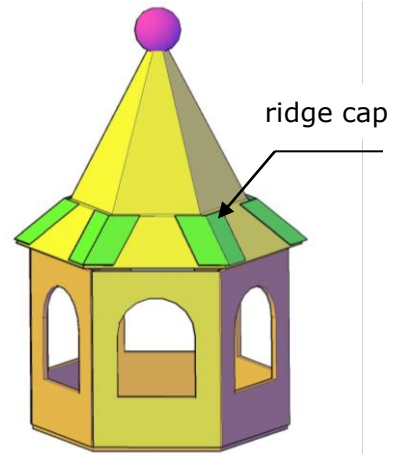
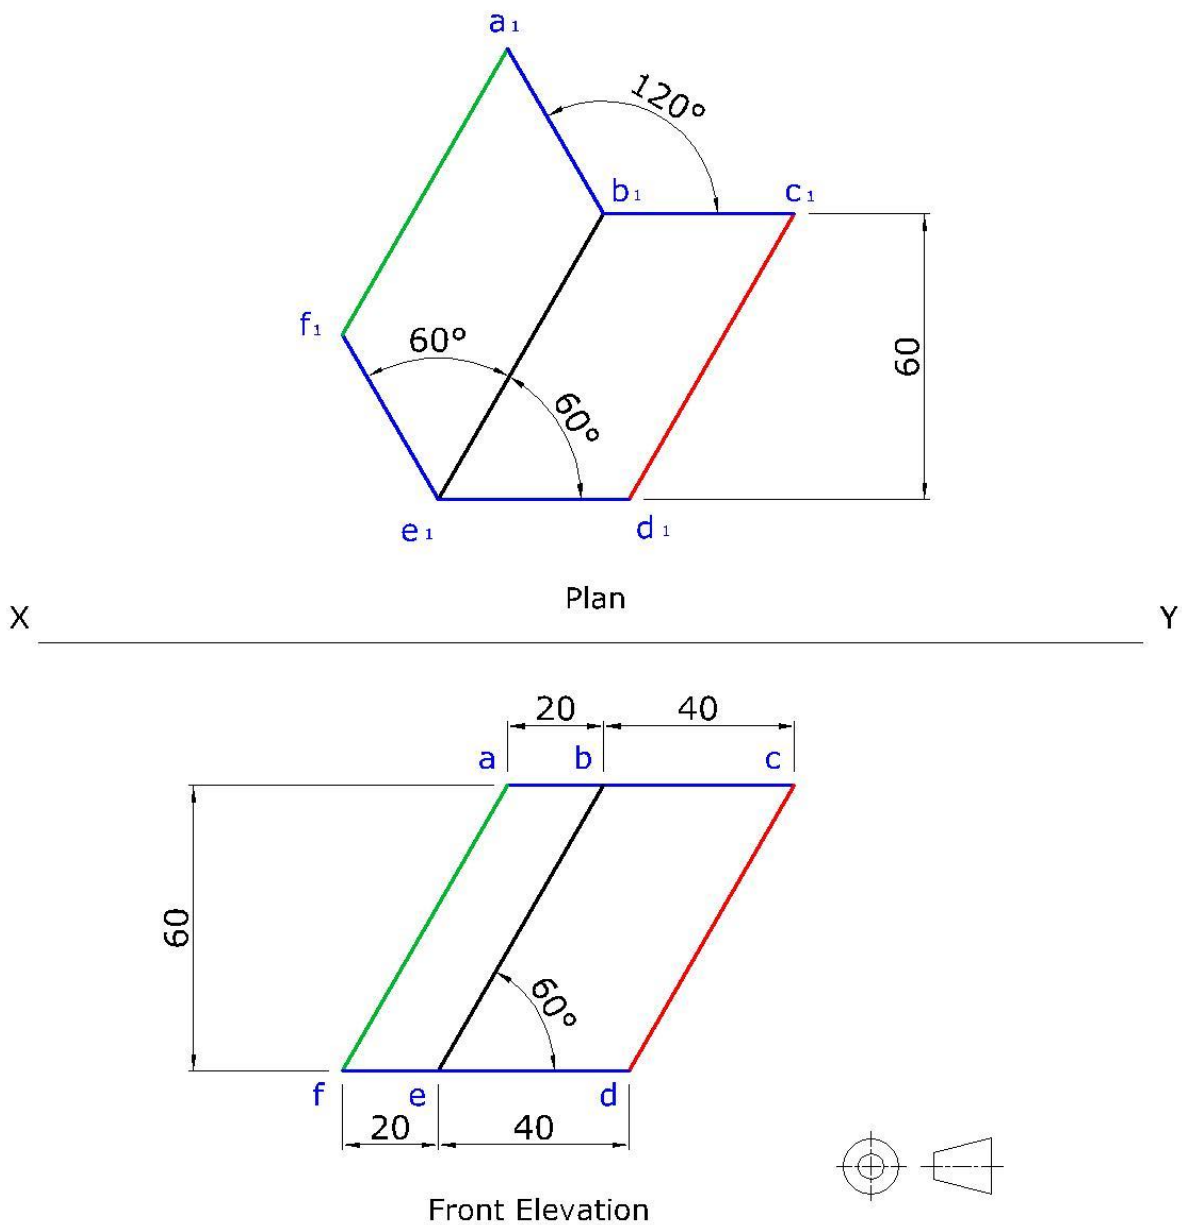

Figure 3a
Figure 3b
3. An illustration of a bird feeder is shown on the right. The upper part of the feeder consists of two sheet metal hexagonal pyramids. Six identical sheet metal ridge caps are used to join lower pyramid (as indicated in Figure 3a). Two orthographic views of one ridge cap are given in Figure 3b. You are required to:
- copy the given views; (2)
- determine the dihedral angle of the bent sheet metal ridge cap; (12)
- determine the true shape of the ridge cap before bending. (6)